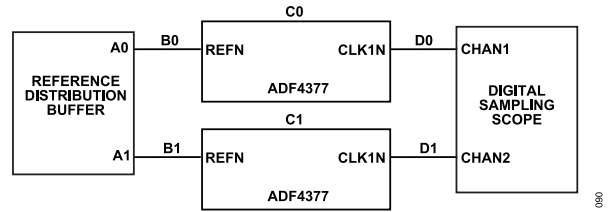
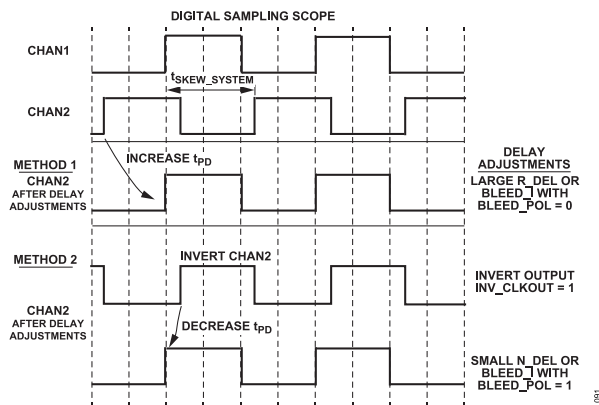

Figure 90. Total System Skew
Figure 91. Skew Adjustment Methods
Due to the controlled  $t_{PD}$  of the ADF4377 devices, it is reasonable to expect that a significant portion of the total system skew ( $t_{SKEW\_SYSTEM}$ ) is due to propagation delay mismatches in traces or cables ( $t_{SKEW\_B}$ ,  $t_{SKEW\_D}$ ), and skew in other components ( $t_{SKEW\_A}$ ) or instruments ( $t_{MEAS\_ERROR}$ ,  $t_{CHAN1}$ , and  $t_{CHAN2}$ ). Figure 90 and
Figure 39 and Figure 37 show a general trend that an increasing magnitude of R\_DEL, N\_DEL, or BLEED\_I bit fields, Bits[9:0] causes a small increase in LNORM and L1/f. Increases in LNORM and L1/f result in clock jitter (see Figure 12 and Figure 15). Therefore, in the most performance sensitive applications, identifying ways to minimize the magnitude of the R\_DEL, N\_DEL, or BLEED\_I bit fields, Bits[9:0] values is desired. As an example, Figure 91 provides two skew adjustment methods to minimize the skew in Figure 90. Method 1 only adjusts one of the reference to output delay adjustments provided in Table 37. Method 1 results in an R\_DEL, N\_DEL, or BLEED\_I bit fields, Bits[9:0] maximum adjustment equal to half an output cycle, or 1/(2 × fOUT). Method 2 minimizes the magnitude of R\_DEL, N\_DEL, or BLEED\_I bit fields, Bits[9:0] by utilizing the output invert along with either R\_DEL, N\_DEL, or BLEED\_I bit fields, Bits[9:0] adjustments. When compared to Method 1, Method 2 results in a lower R\_DEL, N\_DEL, or BLEED\_I bit fields, Bits[9:0] maximum adjustment of a quarter cycle output cycle, or 1/(4 × fOUT). Method 2 is further described in Table 39.
After  $t_{\text{CLK\_SKEW}}$  is calculated, program the second ADF4377 skew adjustment using Method 2, as shown in Figure 91. After the skew adjustment is programmed, a  $t_{\text{CLK\_SKEW}}$  measurement can be repeated as necessary to further fine tune the adjustment or average out measurement repeatability error.
5. Program skew adjustments per Method 2, as shown in Figure 91